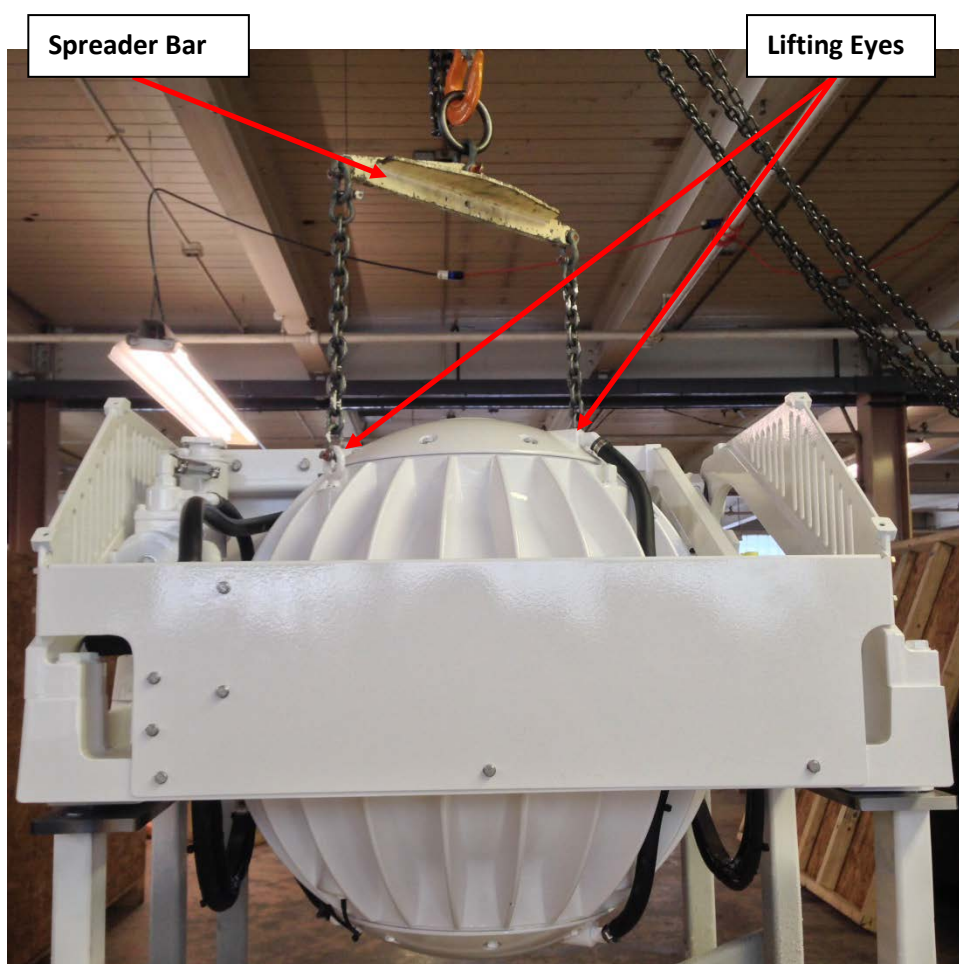

FIGURE 4 – LIFTING ARRANGEMENT
- 5) Attach spreader bar to the two lifting eyes located on the top of the gyro enclosure. Stay clear of any other parts on the gyro. Gyro weighs 549 kg (1210 lbs). See Figure 4 below.